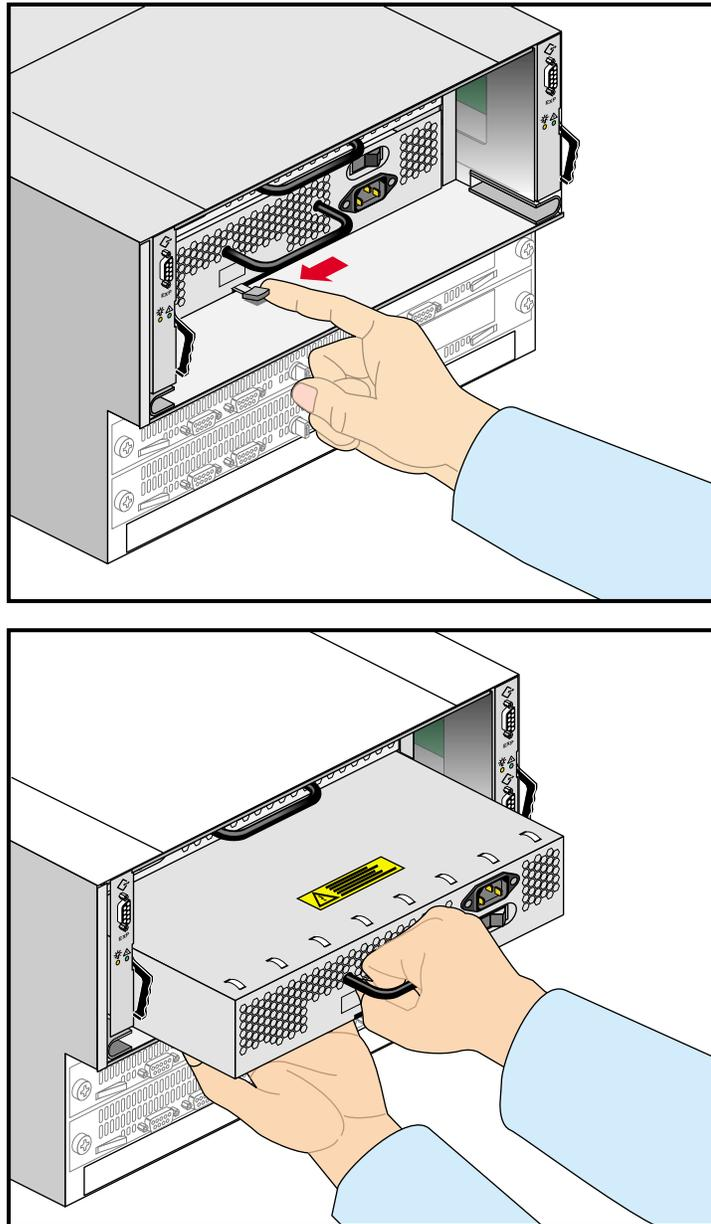

Figure 4-12 Removing an Existing Fibre Channel RAID Power Supply or Filler Panel
5. Pull the supply straight out using the handle and both hands to steady it (see Figure 4-12).